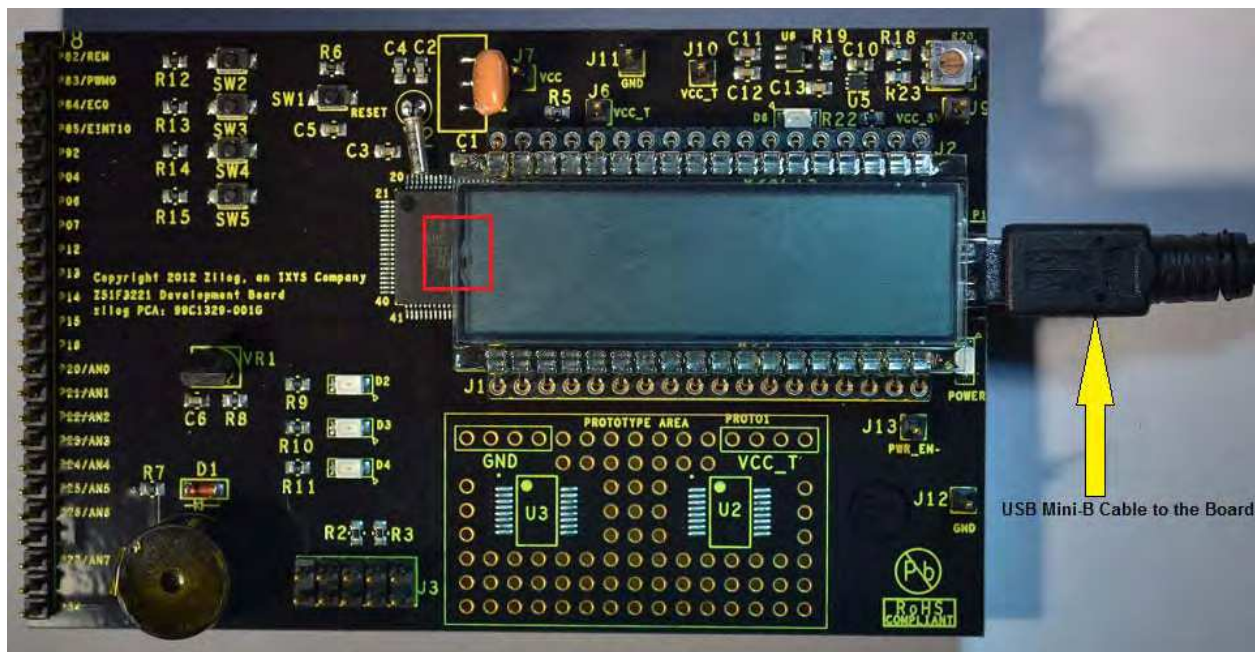

Figure 14. Connecting the USB Mini-B Cable to the Board
5. Connect the other end of this second Mini-B cable to the Z51F3221 Board's P1 connector to apply power to the Board. Note that the green LED D5 is ON; see Figure 14.
► **Note:** In the event that you later remove the LCD panel from the Board, observe its orientation in Figure 14. The panel's small plastic notch should be located in the position indicated by the red square.